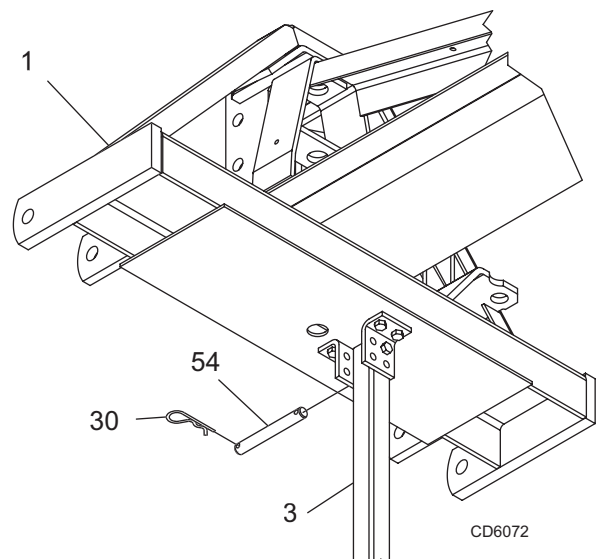

Figure 15 Parking Stand in Parking Position
5. Place A-Frame (1) over end of boom assembly (4).
6. Insert washer(s) (83) between top of boom assembly and A-Frame. One or more washers may be needed to eliminate excessive movement between A-Frame and boom assembly.
7. Position angling hydraulic cylinder (13) in boom assembly.
9. Insert pin (82) through assembly and secure with washer (83) and cotter pin (46).
10. Rotate parking stand (3) down into parking position. Secure with pin (54) and two safety pins (30) as shown in Figure 15.
11. Attach hitch pins (72), bushings (73), washers (74), and klik pins (53) to A-Frame.
12. Attach top link pin (69), bushing (70), and klik pin (32) to A-Frame.